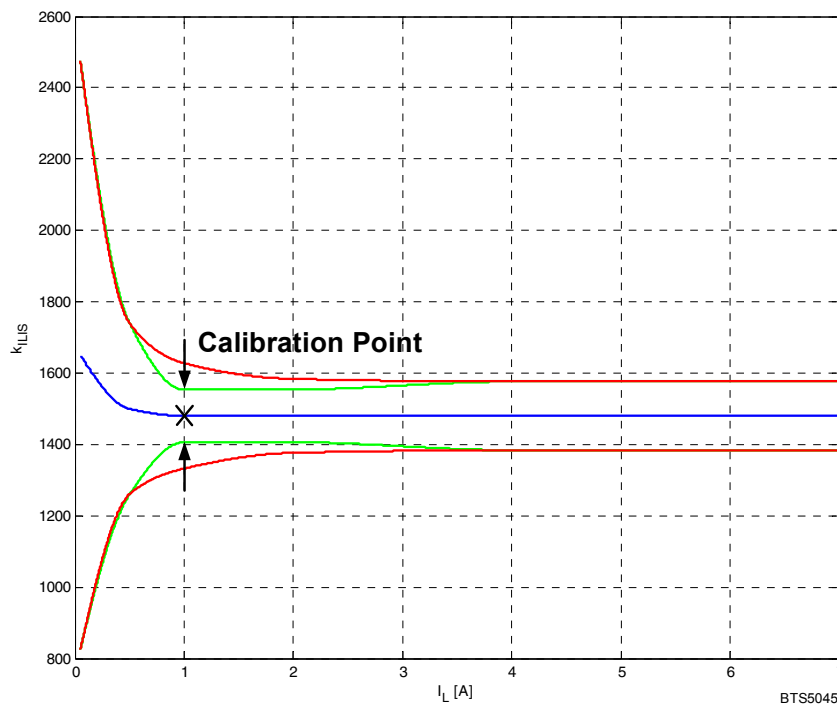

Figure 22 Improved SENSE Accuracy with One Calibration Point
**Figure 21** and **Figure 22** show the current sense as a function of the load current in the power DMOS. Usually, a pull-down resistor  $R_{IS}$  is connected to the IS pin. This resistor has to be higher than  $560\ \Omega$  to limit the power losses in the sense circuitry. A typical value is  $1.2\ k\Omega$ . The blue curve represents the ideal SENSE, assuming an ideal  $k_{ILIS}$  factor value. The red curves show the accuracy the device provides across full temperature range, at a defined current.
In some applications a better accuracy is required around half the nominal current  $I_{L(NOM)}$ . To achieve this accuracy requirement, a calibration on the application is possible. To avoid multiple calibration points at different load and temperature conditions, the BTS5045-2EKA allows limited derating of the  $k_{ILIS}$  value, at nominal load current ( $I_{L3}$ ;  $T_J = +25\ ^\circ C$ ). This derating is described by the parameter  $\Delta k_{ILIS}$ . **Figure 22** shows the behavior of the SENSE current, assuming one calibration point at nominal load at  $+25\ ^\circ C$ .